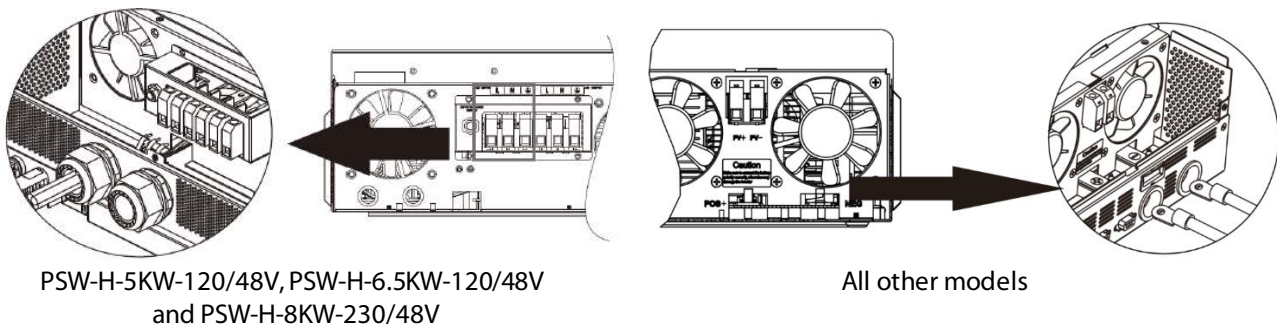

Fig.6: Battery connection
2. Remove the pre-installed nuts from the battery terminal bolts. Insert the ring terminal of the battery cables through the casing holes (cable glands for 120 Vac models) and flat onto the corresponding battery terminal (**Fig.6**). Screw down the previously removed nuts with a torque of 5 Nm, 3.7 lbf-ft (PSW-H-5KW-120/48V, PSW-H-6.5KW-120/48V and PSW-H-8KW-230/48V) or 2 ~ 3 Nm, 1.5 ~ 2.2 lbf-ft (all other models). Ensure the ring terminals sit flush on the connectors.